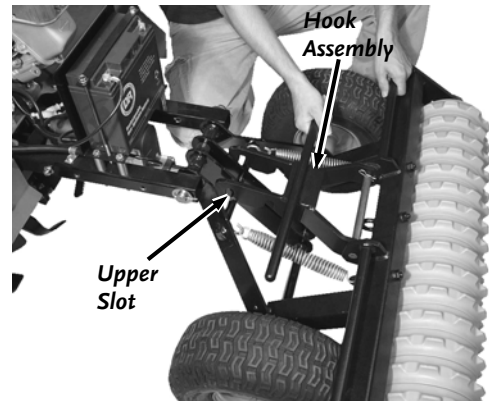

Figure 33
2. Lift up on the Culti-packer as you lift up on the Hook Assembly to disengage the Hook Assembly Slot from the Tiller Wheel Mount Assembly (**Figure 33**).